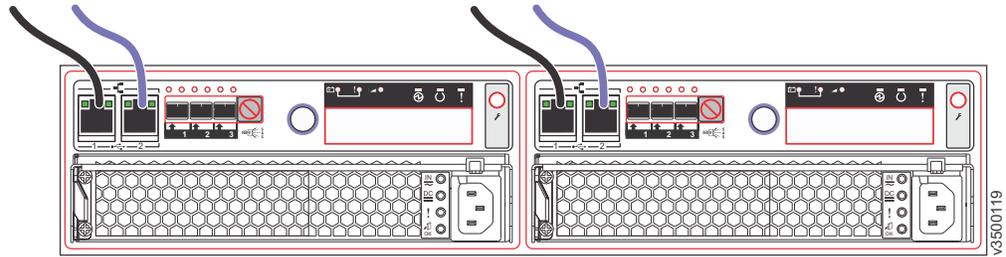

Figure 18. Connecting the Ethernet cables
1. Connect Ethernet port 1 on each node canister to the same Ethernet switch, as shown in Figure 18.
2. Optionally, connect Ethernet port 2 on each node canister to the same alternate Ethernet switch. (Figure 18 shows these optional cables in a lighter color.)